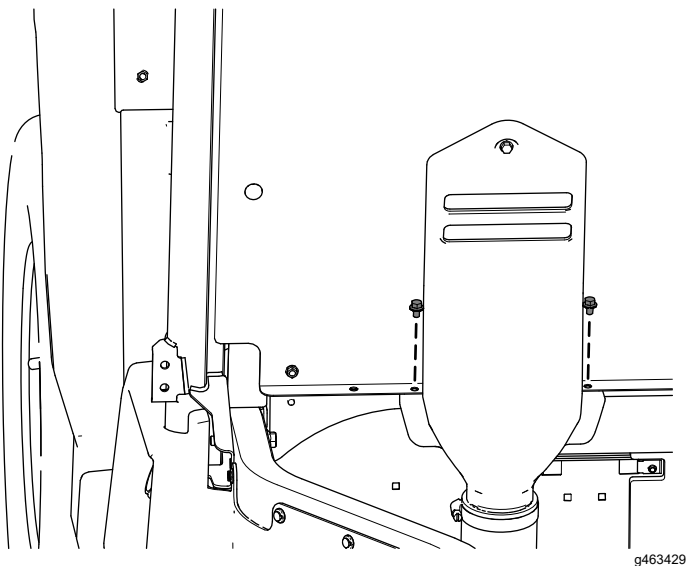

Figure 67
- G. Secure the bottom of the CVT-intake hood to the seat panel using the previously-removed 2 flange-head bolts (1/4 x 3/8 inch) as shown in Figure 67.